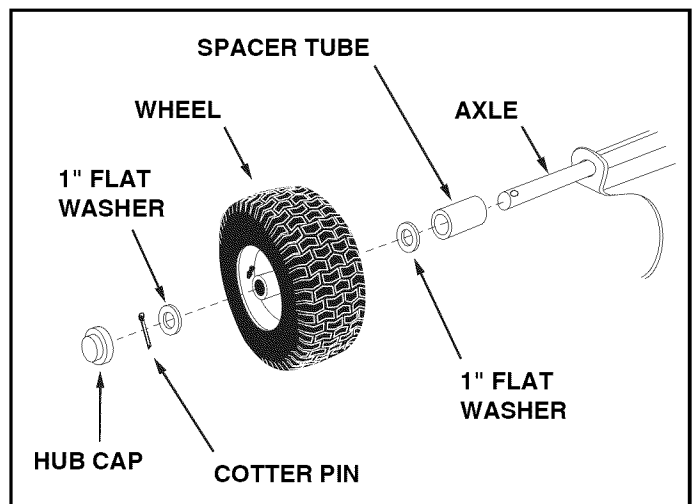

FIGURE 7
- Assemble a spacer tube onto each end of the axle as shown in figure 7.
- Assemble a 1" flat washer, a wheel (valve stem facing out), and another 1" flat washer onto the axle as shown in figure 7. Secure the wheel with a cotter pin, spreading the ends so that a hub cap can fit over the pin. Assemble the hub cap by pressing it onto the flat washer. Repeat on other end of axle.